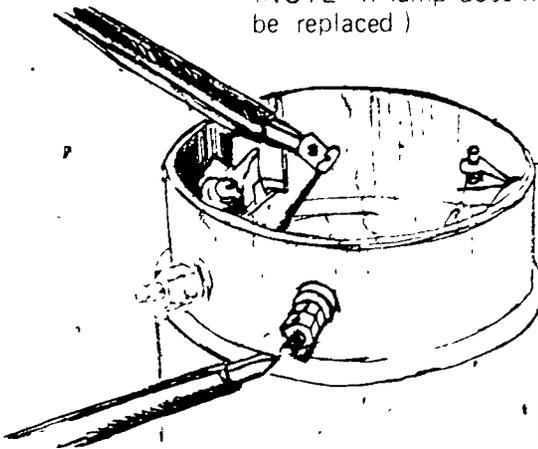

FIGURE 8
9. Test field coil for open circuit (Figure 8)